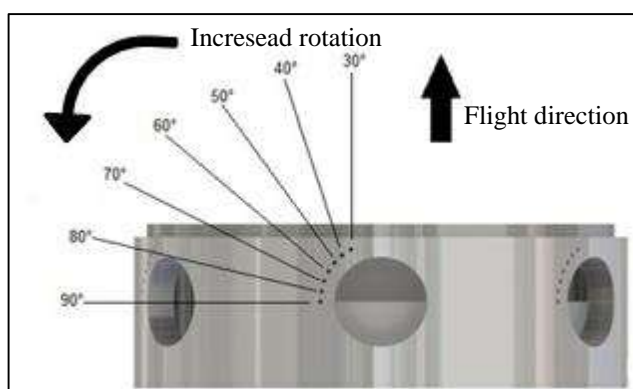

Figure 02: representation of fan blade adjustment.
- a) The fan blades have variable pitch and can be adjusted according to the pilot's need (figure 02). The greater the angle of attack, the greater the rotation of the blades and, consequently, the pump pressure will increase.